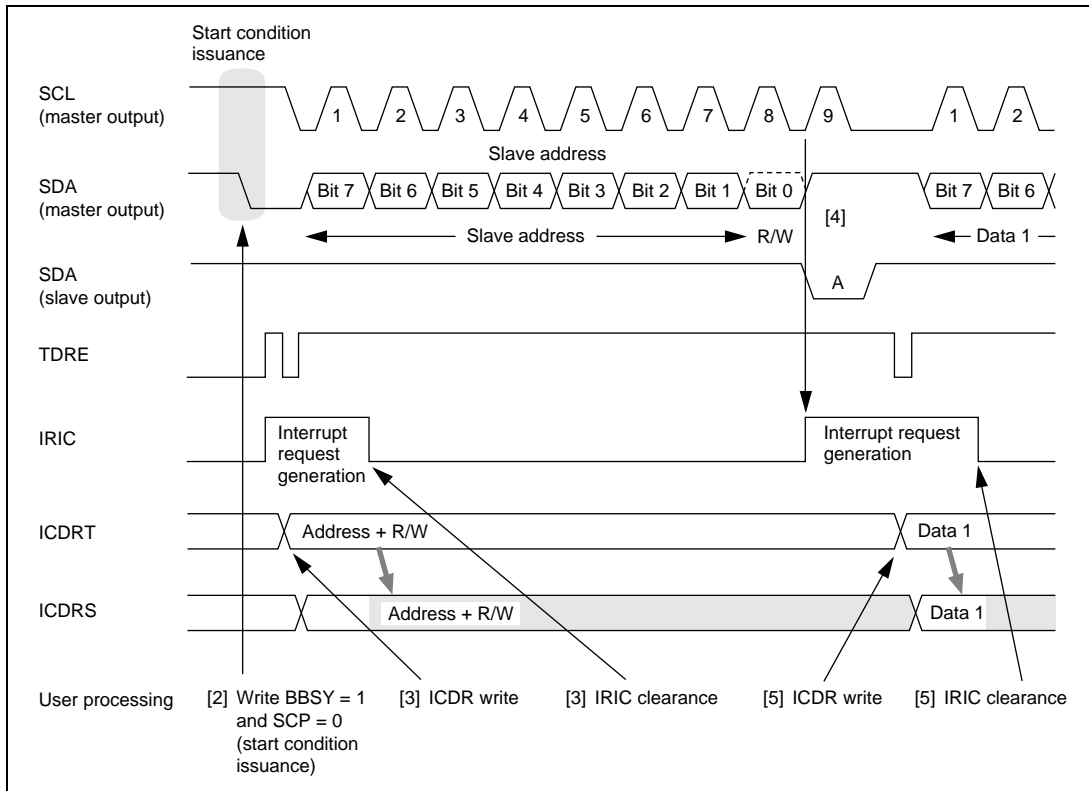

Figure 16.6 Example of Master Transmit Mode Operation Timing (MLS = WAIT = 0)
- [3] With the I²C bus format (when the FS bit in SAR or the FSX bit in SARX is 0), the first frame data following the start condition indicates the 7-bit slave address and transmit/receive direction. Write the data (slave address + R/W) to ICDR. The TDRE internal flag is then cleared to 0. The written address data is transferred to ICDRS, and the TDRE internal flag is set to 1 again. This is identified as indicating the end of the transfer, and so the IRIC flag is cleared to 0. The master device sequentially sends the transmit clock and the data written to ICDR using the timing shown in figure 16.6. The selected slave device (i.e. the slave device with the matching slave address) drives SDA low at the 9th transmit clock pulse and returns an acknowledge signal.